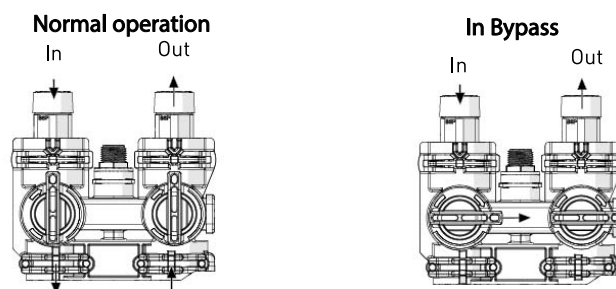

Figure 5
6. Make certain the untreated water piping connects to the control valve on the right and the softened water is connected on the left (Figure 5). Move the bypass levers into normal operation mode (Figure 5)